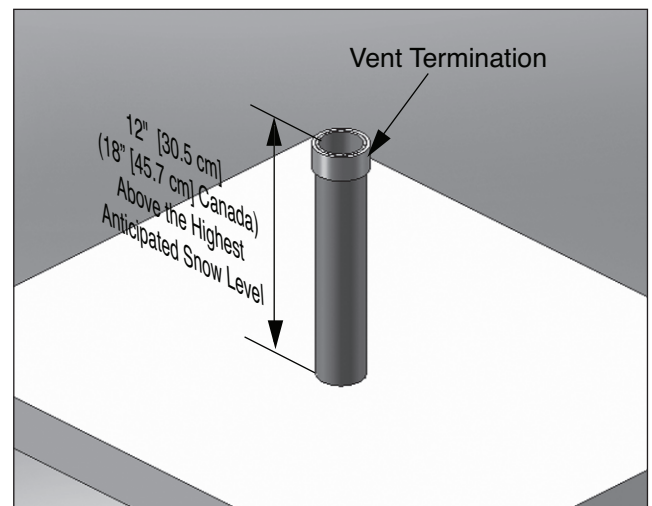

Fig. 14 - Category IV - Vertical Termination of Vent Pipe
3. The vent piping must terminate vertically with a coupling to accept the bird screen and must be located 12" [30.5 cm] (18" [45.7 cm] Canada) above the highest anticipated snow level as shown in *Fig. 14 on page 25*
3. Locate the vent pipe penetration to provide clearances as described in *Fig. 14 on page 25*.
3. The vent piping must terminate vertically with a coupling as shown in *Fig. 14 on page 25*.
Do not extend the vent pipe above the roof beyond the dimensions shown in *Fig. 14 on page 25*. Extended exposure of the vent pipe could cause condensate to freeze and block the vent pipe, resulting in substantial property damage, serious injury, or death.